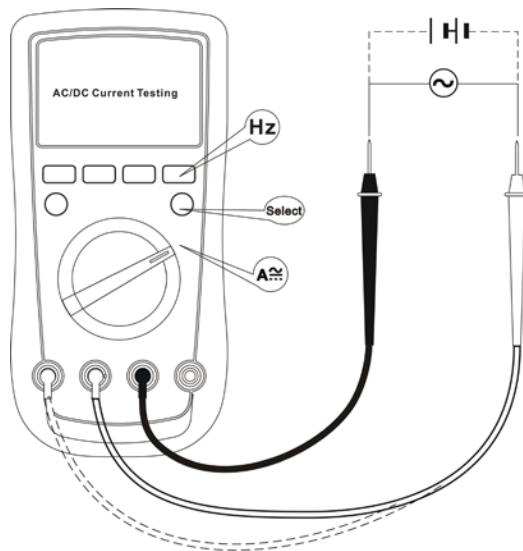

Figure 6
C. AC/DC Current Testing (see figure 6)